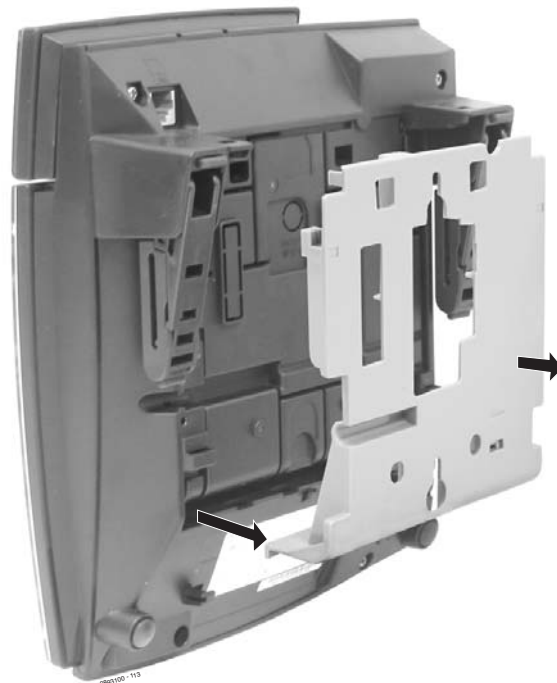

Figure 4-83: REMOVING THE WALL-MOUNT BRACKET
Installing the Wall-Mount Handset Bracket (Figure 4-83 - Figure 4-89)
1. Remove the integrated wall bracket from the bottom of the phone. Refer to Figure 4-83.
4. After removing the integrated wall bracket from the bottom of the phone. (Figure 4-83), attach the wall bracket to the wall using three screws (in the positions indicated below) to the desired wall location.